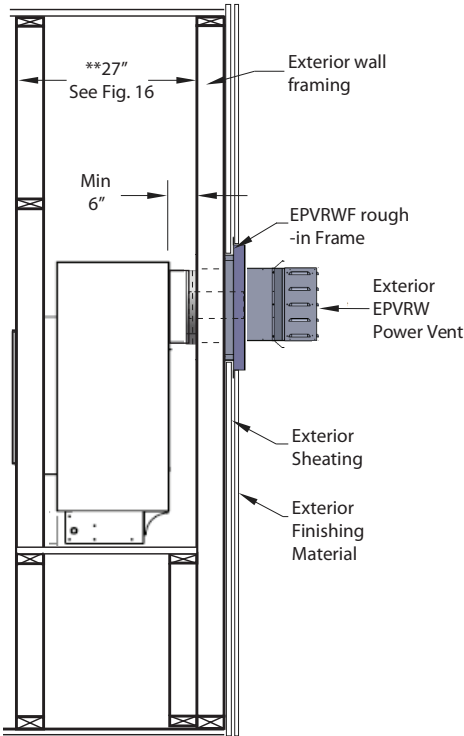

Figure 1a. C-View Residential Rear clearance dimensions.
- * See Instructions on **page 4, (figure 1a)**